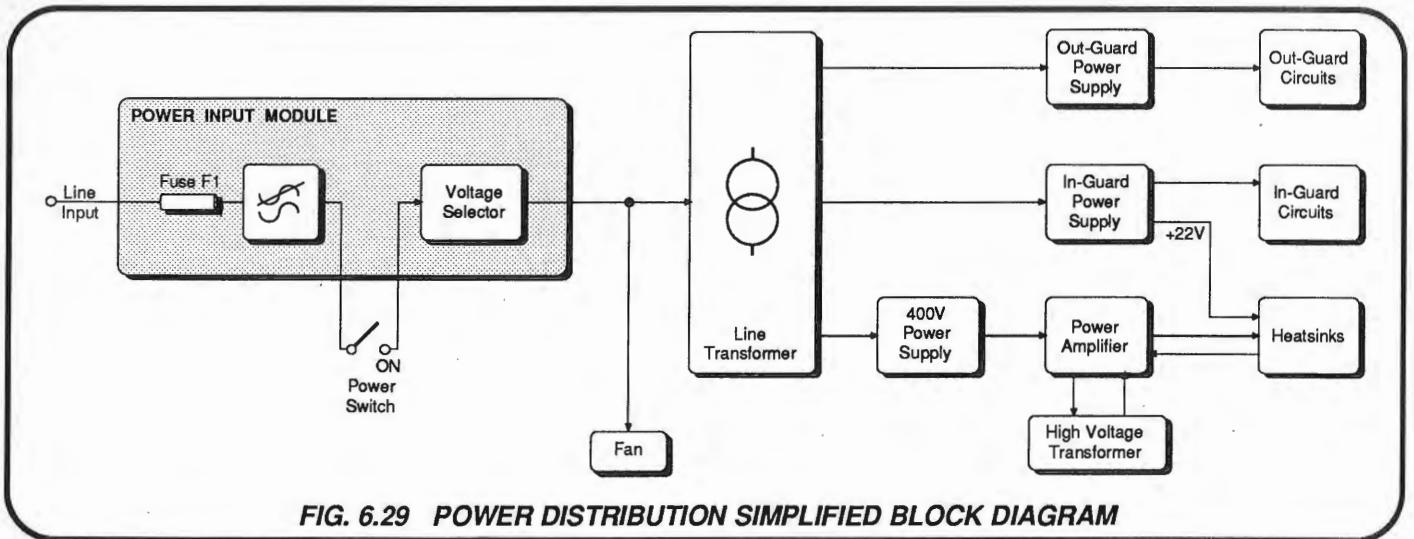

FIG. 6.29 POWER DISTRIBUTION SIMPLIFIED BLOCK DIAGRAM
A simplified power-distribution block diagram appears at Fig. 6.29.
6.7.1 LINE POWER DISTRIBUTION (Fig. 6.29) (Circuit Diagram 430439 Page 11.17-2)